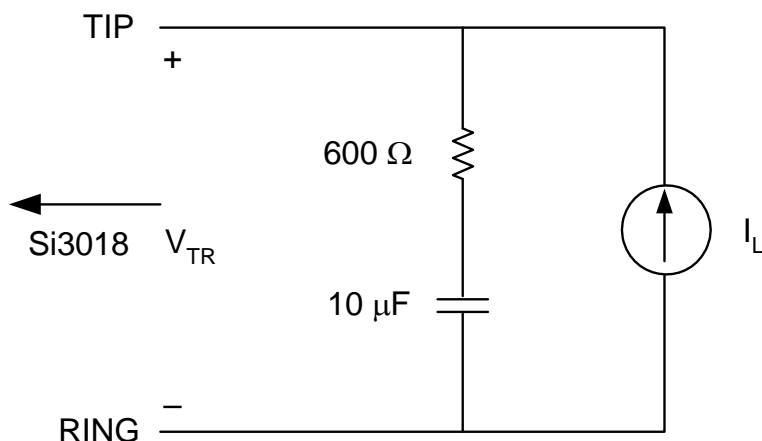

Figure 1. Test Circuit for Loop Characteristics
($V_D = 3.0$ to 3.6 V, $T_A = 0$ to 70 °C, see Figure 1)
- Measured at TIP and RING with 600 Ω termination at 1 kHz, as shown in Figure 1.